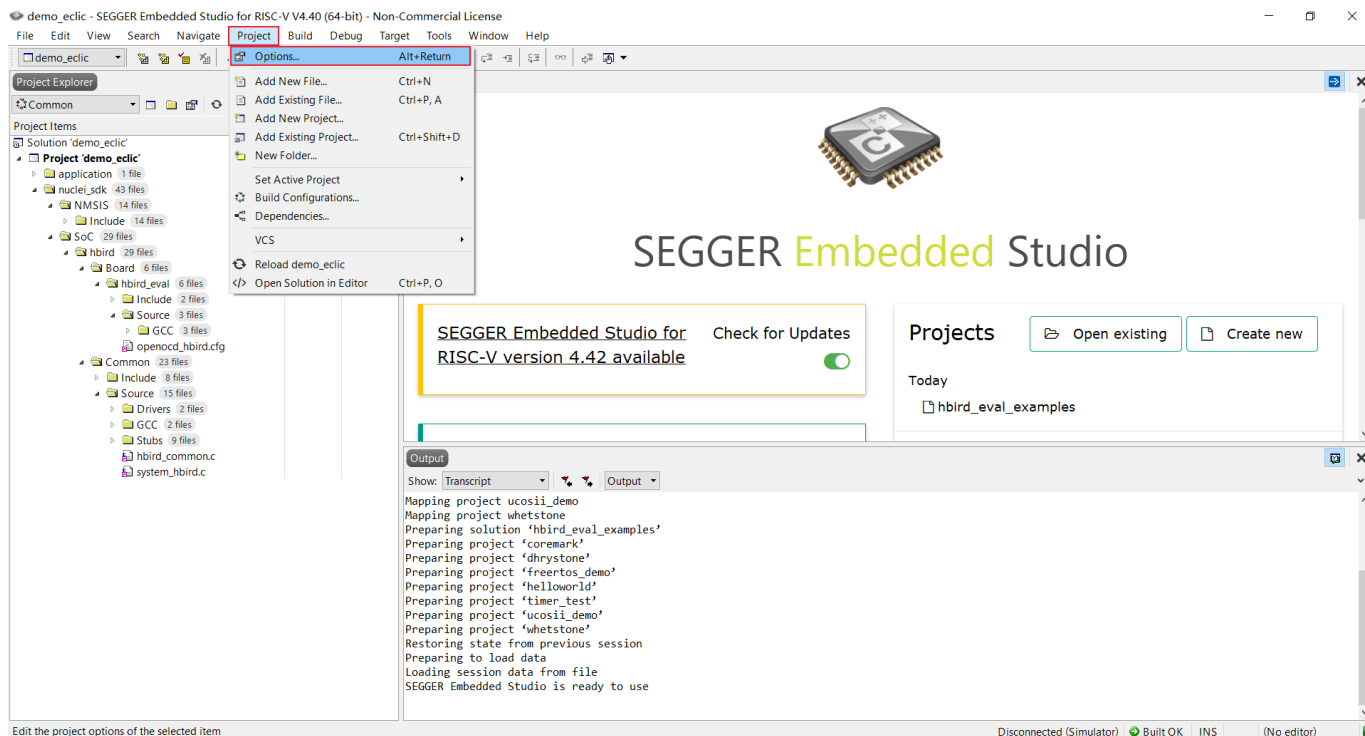

Figure 4-2 Open Project Configuration
- Click “Options” under “Project” option in the menu bar, as shown in Figure 4-2.